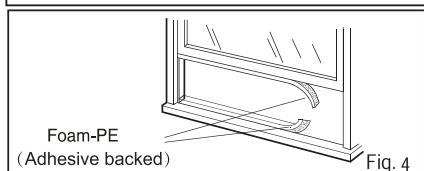

Fig. 4
4. Cut the window sash seal to the proper length. Peel off the backing and attach the Foam-PE to the underside of the window sash and bottom of window frame.(Fig.4)